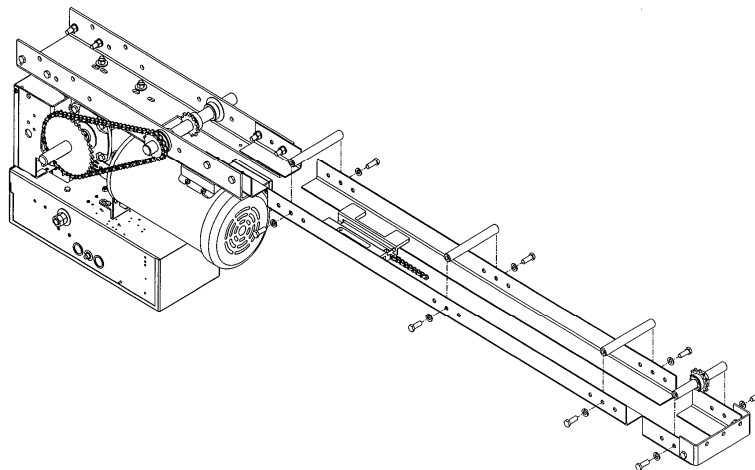

Figure 5 Front idler and spreaders
3. Attach front idler and rail spreaders as shown in Figure 5.